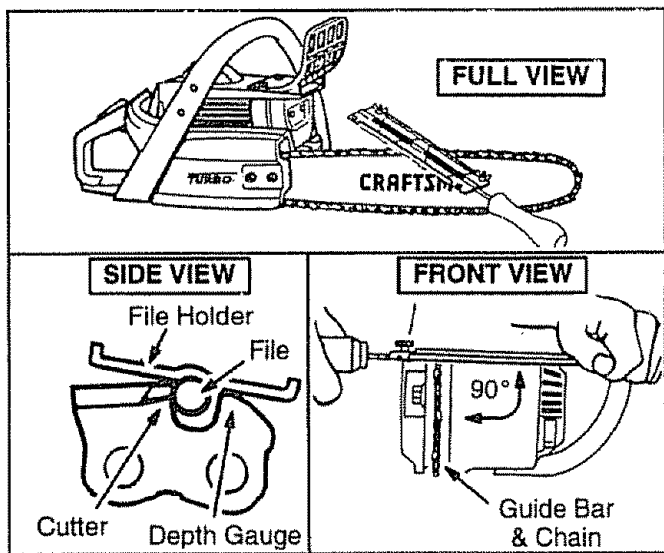

Figure 33
- To sharpen the cutters, position the file holder level (90°) so that it rests on the top edges of the cutter and depth gauge. See Figure 33.